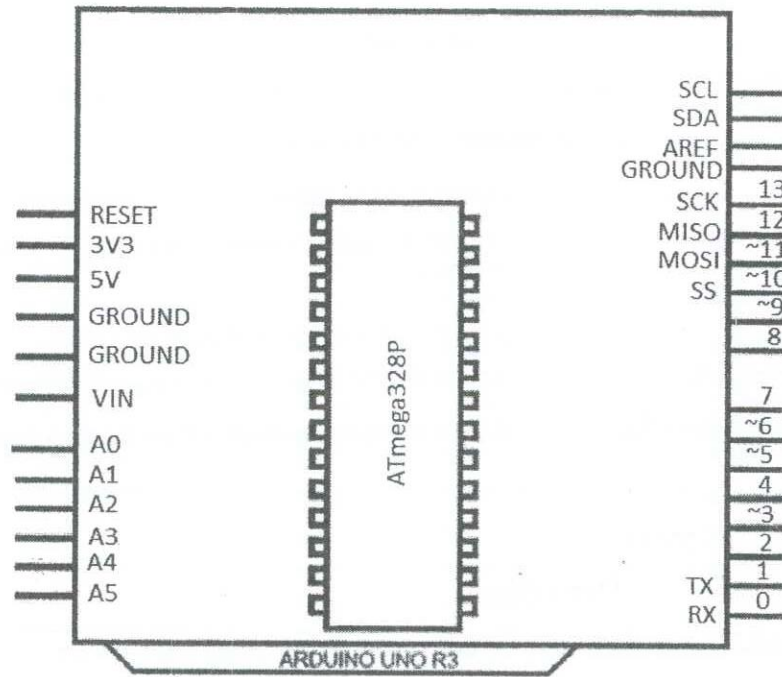

Figure 2: Arduino UNO pin diagram
b) You are asked to use a potentiometer as an input and an LED as an output with the microcontroller development board given in the figure 2.
Q4. a) You are asked to make a low-cost consumer device to turn on and turn off three light bulbs (230V AC) using the microcontroller development board shown in figure 2. Three switches are to be used to turn on and turn off each bulb manually (if one switch for one bulb). Once one of the switches is pressed, the respective bulb is turned on and turn off the same by the next press. Three potentiometers are used to control the ON duration of the each light bulbs separately. After that time, the bulbs will be turned off automatically.
- b) Two student groups have given a task of making a distance measuring device using a microcontroller development boards shown in figure 2 and several ultrasonic sensors. This device is to be used to measure a fluid level from the overflow level of a tank. The fluid supply can be cut off when the fluid level is near the overflow level. One group came up with the device with one ultrasonic sensor, and the other came up with three ultrasonic sensors to measure the same distance. Explain what will be the best design for the situations given below.
Q5. You are asked to make a cooling system for an important medical item. It includes water pumps operated by DC motors and controlled by the microcontroller development boards shown in figure 2. Two cooling paths need to be supplied with coolant, so a minimum of two pumps are required. The system should be reliable to supply coolant continuously and accurately control the motors' speed
- b) Explain how many microcontroller development boards shown in figure 2 should be used to drive all DC motors. If there is to use more than one development board, explain the communication method to use between the boards.